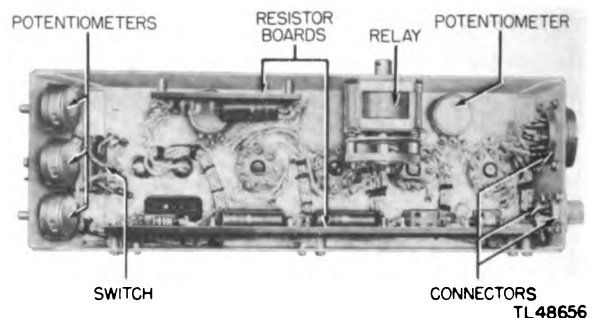

Figure 4-40. STC unit, bottom view.
(3) Remove the six mounting screws around the side of the STC unit and lift it from the console.
(4) Remove the bottom cover from the STC unit.
b. Maintenance Procedure (fig. 4-40).
(1) The tubes for dirt and loose mounting (par. 2-2).
(2) The switch for improper mounting and faulty operation (par. 2-14).
(3) The potentiometers for improper mounting, corrosion, and bad connections (par. 2-6).
(4) The relay for corrosion, bad contacts, and faulty operation (par. 2-13).
(5) The connectors for damage, corrosion, and loose mounting (par. 2-9).
(6) The resistors for cracks, blistering, and discoloration (par. 2-4).
(7) All wiring for loose lacing and frayed insulation. Check all electrical connections for looseness and corrosion (par. 2-8).